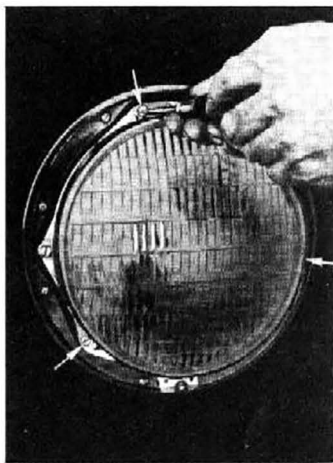

Fig. 49—Loosen Retaining Ring Screws
2. Loosen but do not remove the three screws holding the retaining ring. (See Fig. 49.) (Do not disturb the aiming screws at the top and on the left side of the unit.)